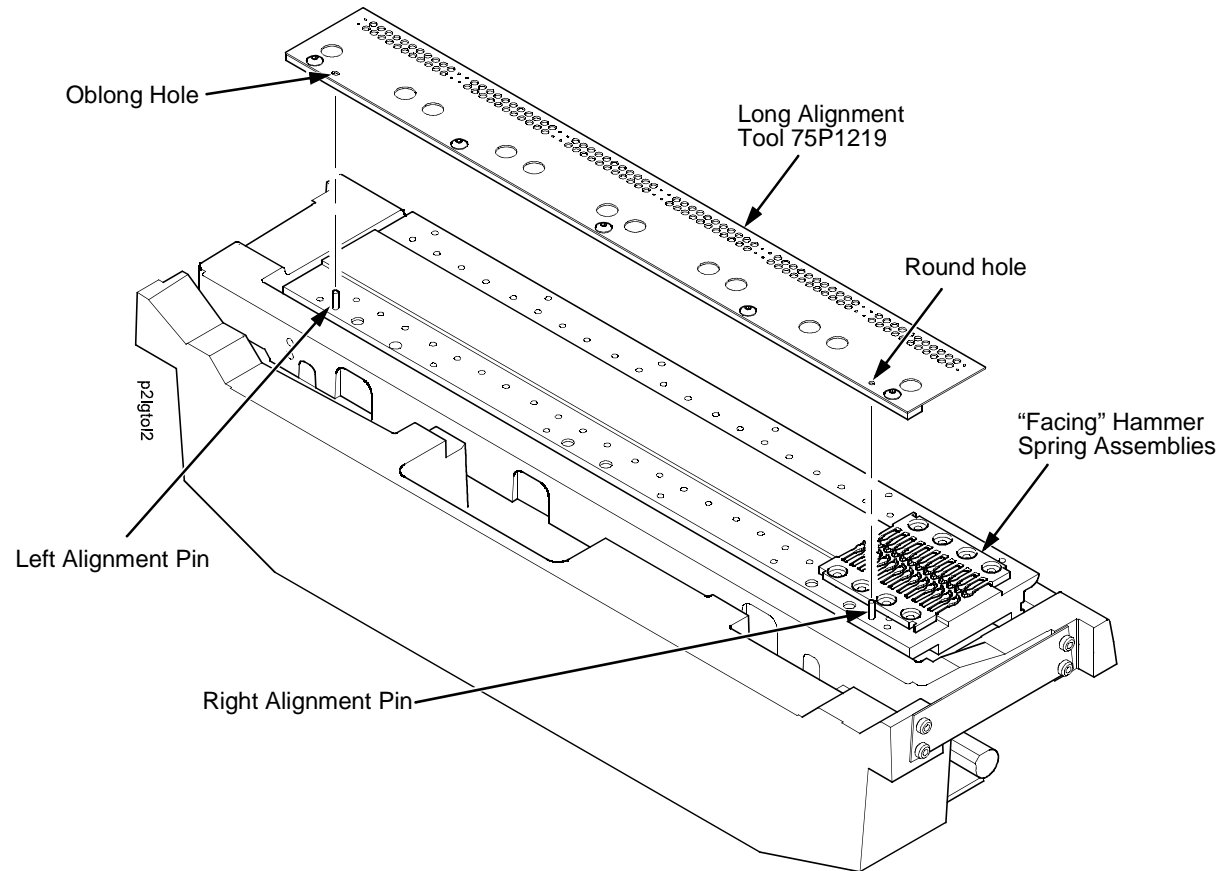

Figure 23. This figure shows how to position the long tip alignment tool when using it to install more than one hammer spring assembly on a dual hammer bank.
2. Place the hammer bank on a work surface with the alignment pins on the side nearest you. (The alignment pins are shown in Figure 23.)
5. Gently position long Tip Alignment Tool 75P1219 so the right side alignment pin on the hammer bank is in the round hole in the tool, then lower the tool until its oblong hole fits over the alignment pin on the left side of the hammer bank. (See Figure 23.)